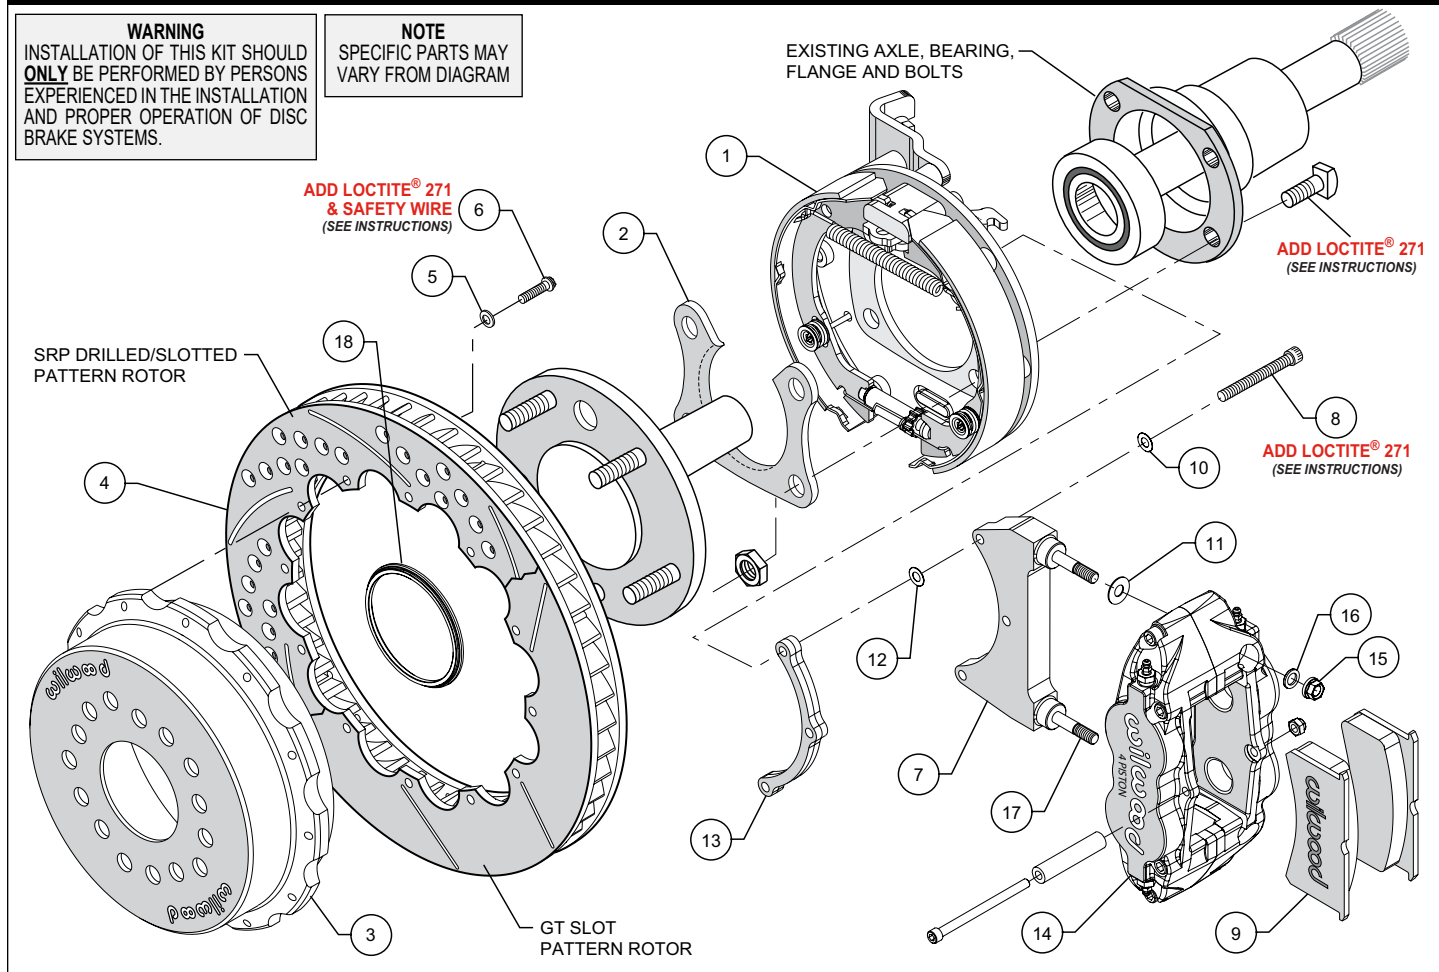

Figure 1. Typical Installation Configuration
- Slide the bracket kit assembly (1) onto the housing flange and then insert the axle assembly through the center hole of the bracket kit assembly (1). Align the bearing retainer (2), as shown in Figures 1 and 4, and secure using the stock Original Equipment Manufacturer (OEM) bolts and nuts. Stock OEM hex nuts that retain the bracket kit assembly (1) and retainer (2) should be on the wheel side of the bracket. Apply red *Loctite*® 271 to the stock OEM bolt threads and torque to OEM specifications. Make sure the bracket kit assembly (1) brake pads are FACING OUTWARD TOWARDS THE WHEEL.
The caliper mounting bracket assembly (7) should be installed first with clean, dry threads on the mounting bolts (8). Install the bracket from the rear side of the bracket kit assembly (1) by sliding bolt (8) through flat washer (10), bracket (7), shim washer (12) and finally through the spacer (13), see Figure 1. **NOTE:** End of bolt should not exceed inside face of insert. The bracket must tighten squarely against the back side of the bracket kit assembly (1). Inspect for interference from casting irregularities, machining ridges, burrs, etc. Use one thin shim (12) between the bracket (7) and spacer (13) during initial trial fitting.
• Install one shim (11) over each pre-installed stud (17) on the radial mount bracket (7). Slide the caliper (14) in place over the studs and rotor, then install the washer (16) and lock nut (15) to hold the caliper in place. Snug the lock nuts (15) and check that the rotor (4) is centered in the caliper (14). Add or subtract .015" shims (12) as necessary between the caliper mounting bracket (7) and the spacer (13) to center the caliper (14).
• Remove the caliper center bridge pad retainer bolt, nut, and tube from the caliper. Slide the brake pads (9) into place. They should install easily without interference. Check that the outside radius of the brake pad is aligned with the outside diameter radius of the rotor face. Add or subtract shims (11) between the caliper (14) and mount bracket (7) to gain the proper alignment. Reinstall the center bridge pad retainer tube, bolt, and locknut. The locknut should be snug without play in the bolt or tube. Be cautious not to over tighten.
• Adjust the parking brake shoes outward (using a drum shoe adjustment tool available at your local auto parts store) while spinning the hat (3) until a slight drag is felt against the hat/drum. Remove the lug nuts that were holding the hat/rotor in place. Install the wheel and lug nuts. Check to see that the wheel rotates freely without interference.
• Once all clearances have been checked, remove the wheel, caliper, hat/rotor from the bracket kit assembly (1). Secure the caliper mounting bracket (7) to the bracket kit assembly (1) using red *Loctite*® 271. Torque bolts (8) to 180 in-lb. Reinstall the hat/rotor assembly and again use lug nuts to hold it in place. Reinstall the caliper and torque the caliper nuts (15) to 30 ft-lb.
•**NOTE:** Clevis and cable kits which attach to the parking brake assembly are not included in the Wilwood parking brake kit. Wilwood offers a generic style parking brake cable kit, P/N 330-9371 for this application which can be ordered separately from your local Wilwood dealer or by calling Wilwood customer service at (805) 388-1188.